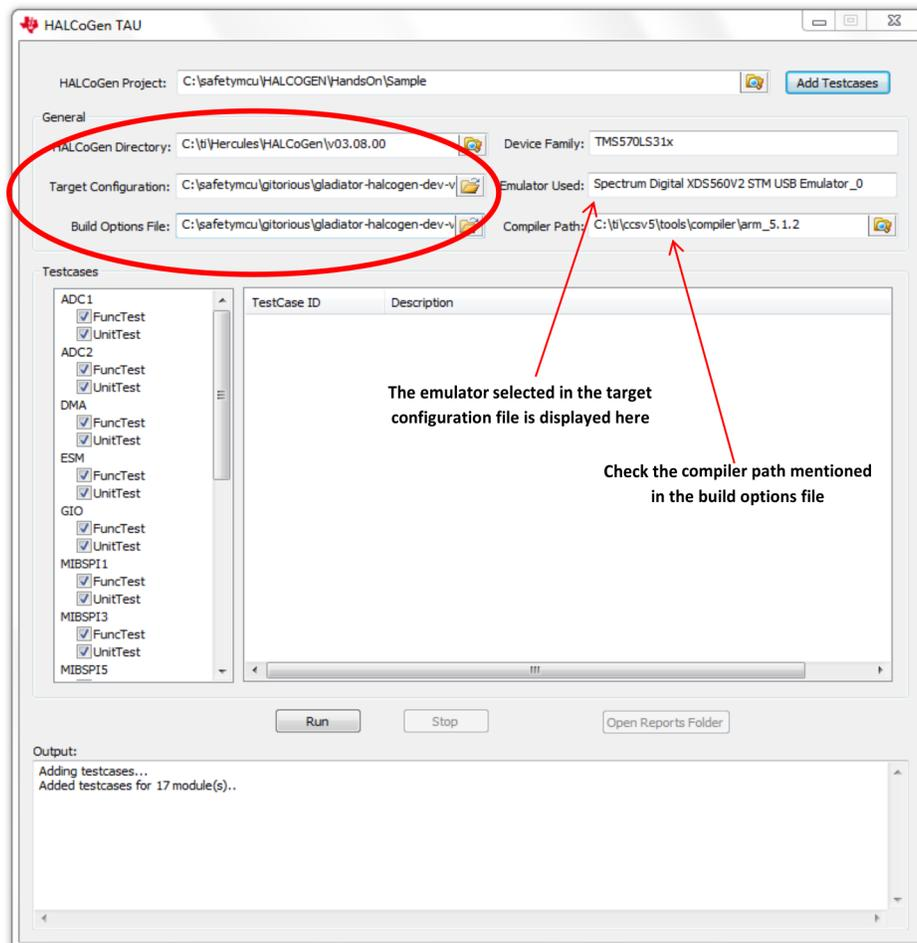

Figure 8. Target and Build Option Selection
5. Browse for the HALCoGen directory, target configuration file and build options file (see Figure 8). Click here to know more about target configuration file and build options file. (Sample target configurations files and the build options file are provided in the <install_dir> \TargetConfiguration and <install_dir>\BuildOptions folders, respectively).